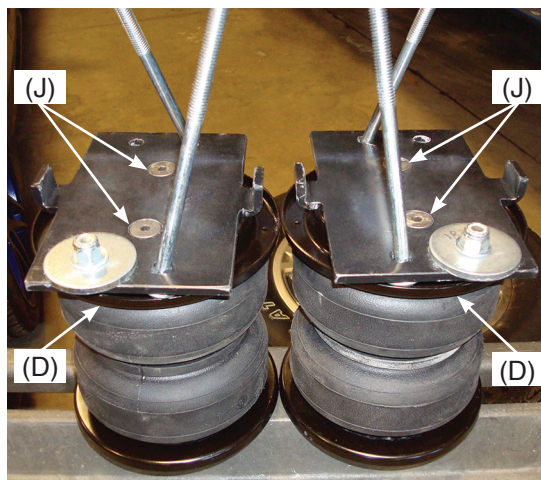

fig. 12
4. Set a roll plate (D) over the bottom of the air spring and install the lower brackets onto the air spring assembly so that the large washer previously installed will be forward of the axle once installed (Figs. 12 & 13) using the 3/8" flat head screws (J). Torque to no more than 20 ftlbs.
- a. Check the air line connection by deflating the spring and removing the line by pulling the collar against the fitting and pulling firmly on the air line. Trim 1" off the end of the air line. Be sure the cut is clean and square (see Fig. 12). Reinsert the air line into the push-to-connect fitting.